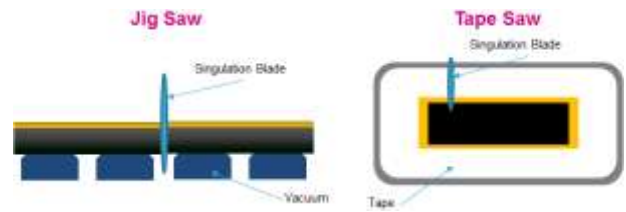

Fig. 2. Conventional package singulation techniques.
- Traditional package singulation techniques in Fig. 2 come with some process related defects or anomalies like uncut unit, metal burrs, shallow cut, delamination and package chip-out as earlier shown